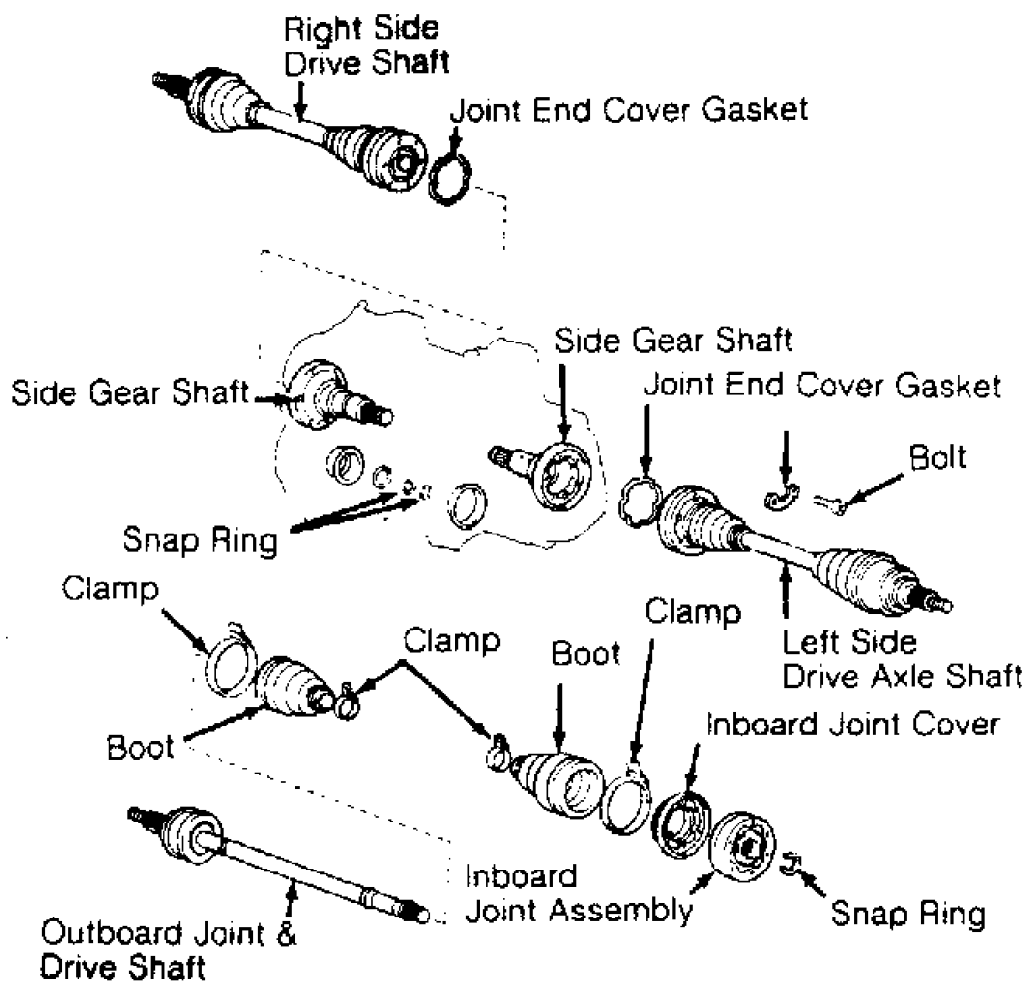

Fig. 4: Exploded View of Celica All-Trac Drive Axle Shafts
- 2) Separate tie rods and lower control arms from steering knuckle. Paint mating marks on inboard drive axle shafts and side gear shaft flanges. Loosen the 6 Allen bolts securing inboard drive axle shafts to side gear shafts. See Fig. 4.